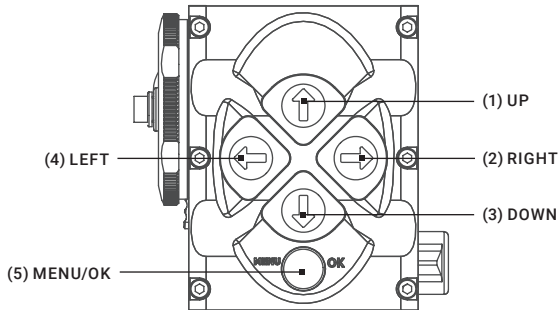
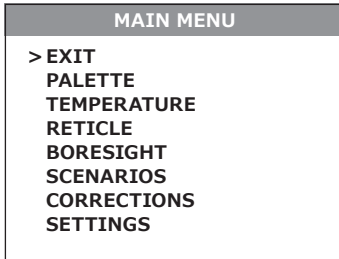

FIGURE 2-9. MAIN MENU NAVIGATION BUTTONS
FIGURE 2-10. MAIN MENU
To display the MAIN MENU, push and hold down the MENU button (5) on the control panel (Figure 2-9). Push and hold down the MENU button again to exit the menu.
Once the MAIN MENU is displayed (Figure 2-10), use the UP and DOWN buttons (Figure 2-9) to navigate through the items on the menu.